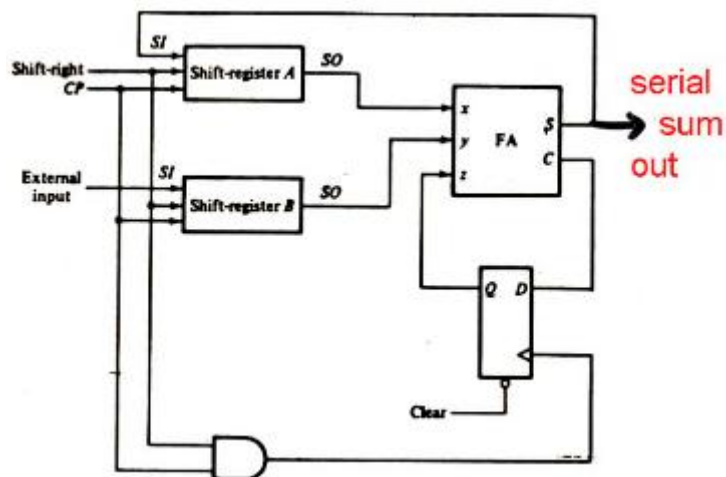

Figure 9.24: Serial Addition of two 8-bit numbers
- This converts parallel data to serial and uses full-adder(FA) block sequentially (Figure 9.24).
- The sum(S) output of FA(full adder) is fed to serial data-in of Shift Register A.